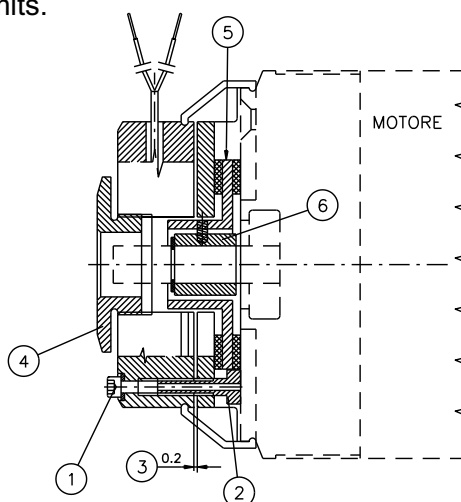

Fig. 10 ( FRENO LATO MOTORE )
- a) Loosen the three hexagonal adjustment bushes (2) in fig. 10;
- b) Adjust the three fixing screws (1) so as to obtain a clearance between 0.2 and 0.4 mm;
- c) Lock the three hexagonal adjustment bushes (2) and check, with a thickness gauge, that the clearance is within the permitted limits.